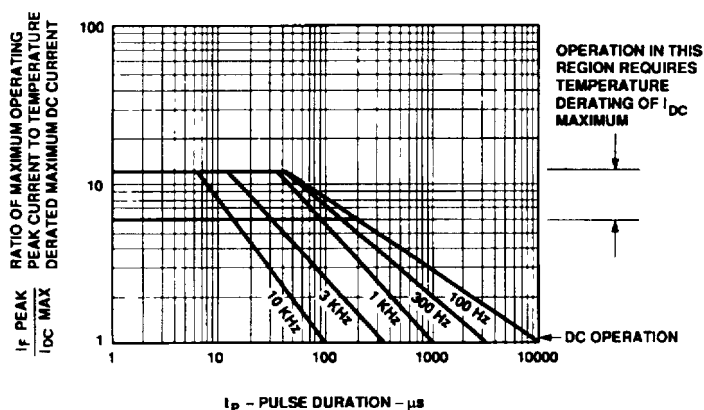

Figure 1. Maximum Tolerable Peak Current vs. Pulse Duration - Red.
- 1 See Figure 1 to establish pulsed conditions.